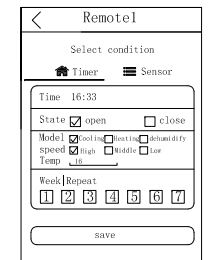

Fig.9
- b.Press “+” at the top right corner to access to the interface as Fig. 9. User can add timer or sensor control in the APP. Press “Save” to save all the settings.